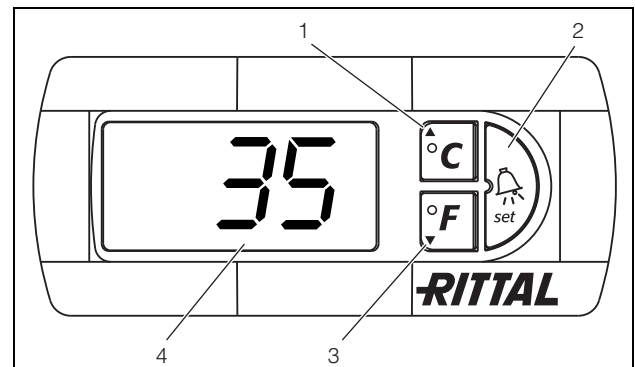

Fig. 34: e-Comfort controller
The cooling unit operates automatically i.e. after switching on the power supply, the evaporator fan (see Fig. 2, page 5) starts to run and circulates the internal enclosure air. The compressor and condenser fan are regulated by the e-Comfort controller. The e-Comfort controller has a 7-segment display (Fig. 34, no. 4). After switching on the power supply, the current software version initially appears on this display for approx. 2 seconds, as well as the activated eco-mode. Followed by a preset option (e. g. t10) or the temperature.
In regular operation, the display shows both the temperature (in degrees Celsius or Fahrenheit – users may switch between the two) and any error messages. The current enclosure internal temperature is usually displayed permanently. In the event of an error message, this will alternate with the temperature display. The unit is programmed using buttons 1 – 3 (Fig. 34). The relevant parameters also appear in the display.
- Simultaneously press buttons 1 and 2 (Fig. 34) for at least 5 sec.
Using buttons 1, 2 and 3 (Fig. 34) you can change 24 parameters within the preset ranges (min. value – max. value).